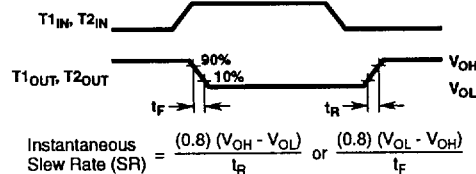

FIGURE 4. SLEW RATE DEFINITION
2. See Figure 4 for definition.